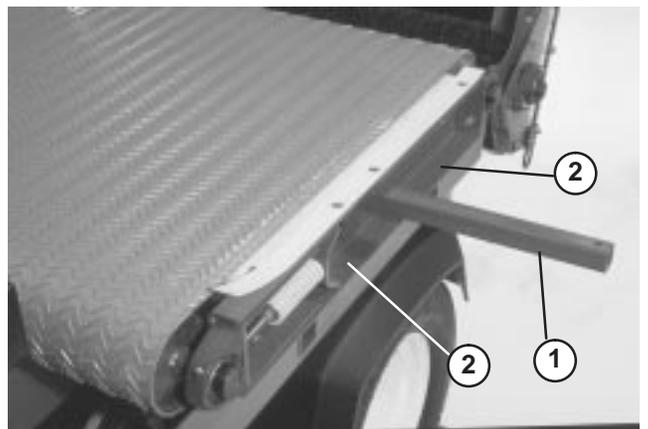

Figure 32
- Remove (2) capscrews, washers and nut, on left side of machine, securing slider bed to frame (Fig. 32).
- Insert a lift bar into hole on left side of machine and raise lift bar to tip slider bed (Fig. 32).